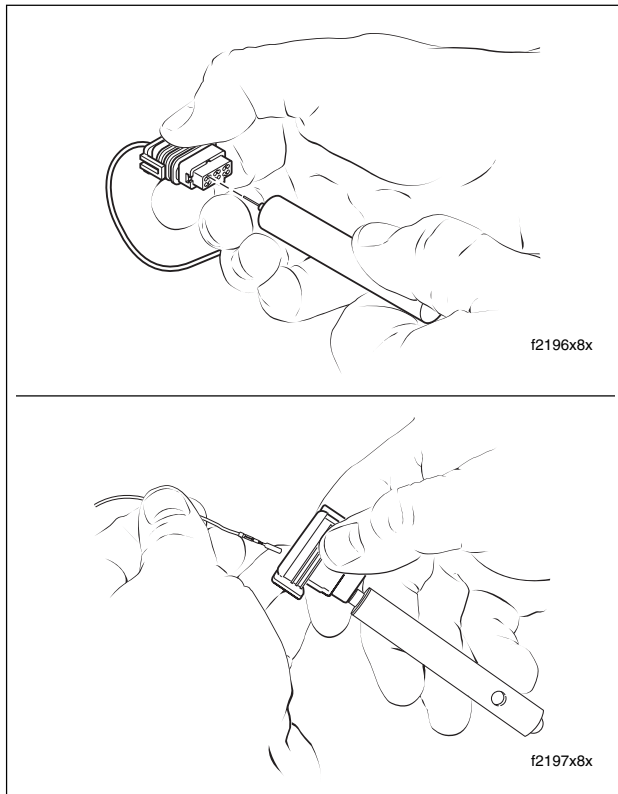

Figure B-29. Insert Tool and Remove Terminal
- b. Push the adjacent terminals all the way into the connector housing and then insert tool into hole until it bottoms. See upper frame of Figure B-29.
- c. Leaving the tool installed, gently tug on wires to pull either one or both terminals from wire end of connector. See lower frame of Figure B-29. Remove tool.